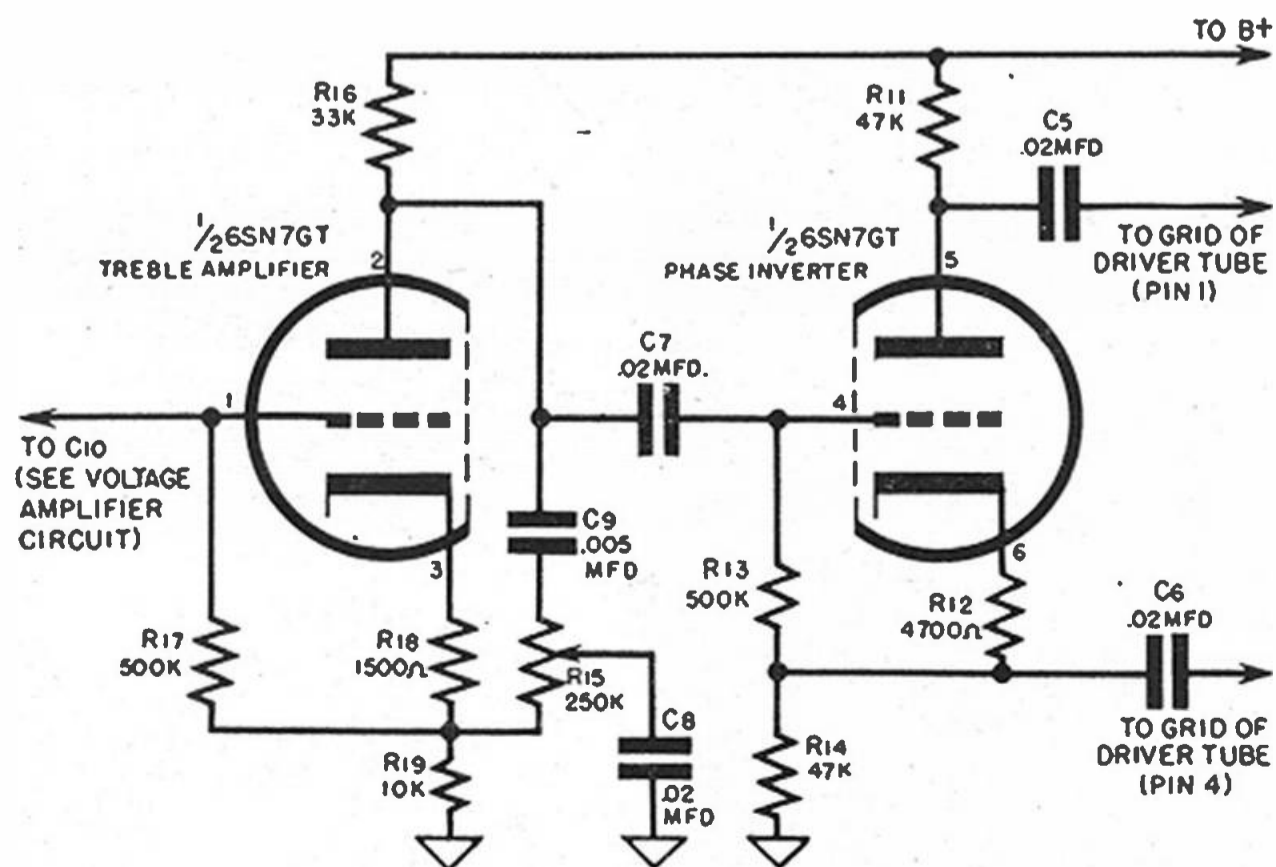

Fig. 5-26. Treble amplifier-phase inverter circuit.
e) *Treble Amplifier-Phase Inverter.* See Figure 5-26.